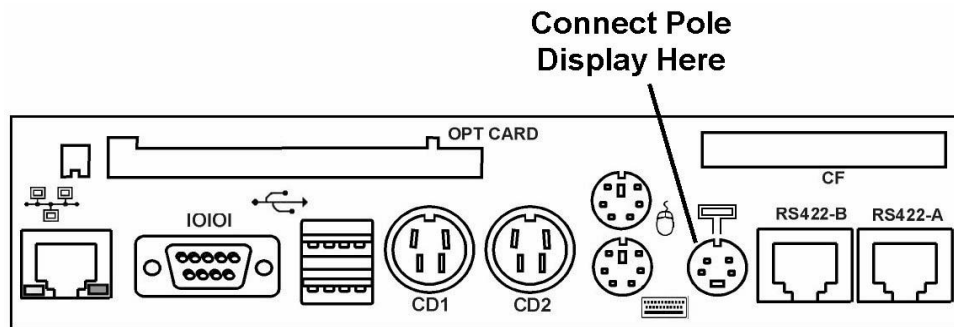

Figure 2-19: Connecting the Pole Display to the WS4 IO Panel
3. Figure 2-19 points out the location of the Pole Display connector. Power-off the WS4 and attach the keyed 4-Pin DIN connector on the cable to the Customer Display Connector on the workstation IO Panel.